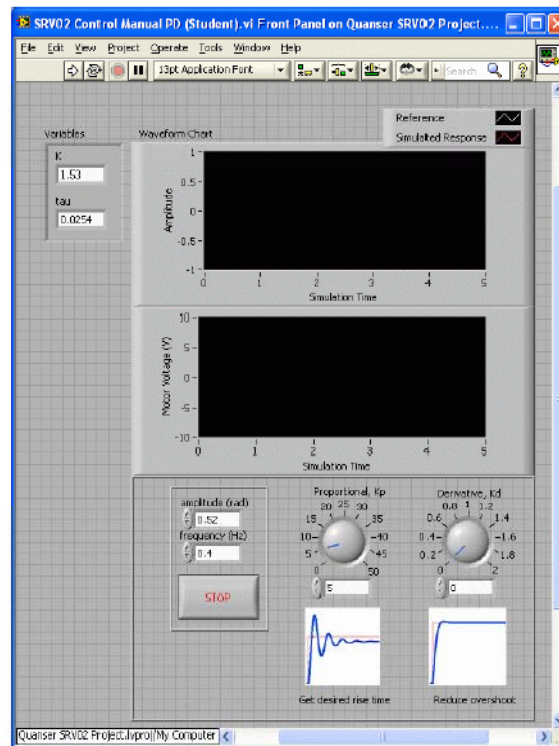

Figure 4.8: SRV02 PD Control VI
1. Open Quanser SRV02 Project | SRV02 Control Design and Simulation | SRV02 Manual Control PD.vi shown in Figure 4.8.